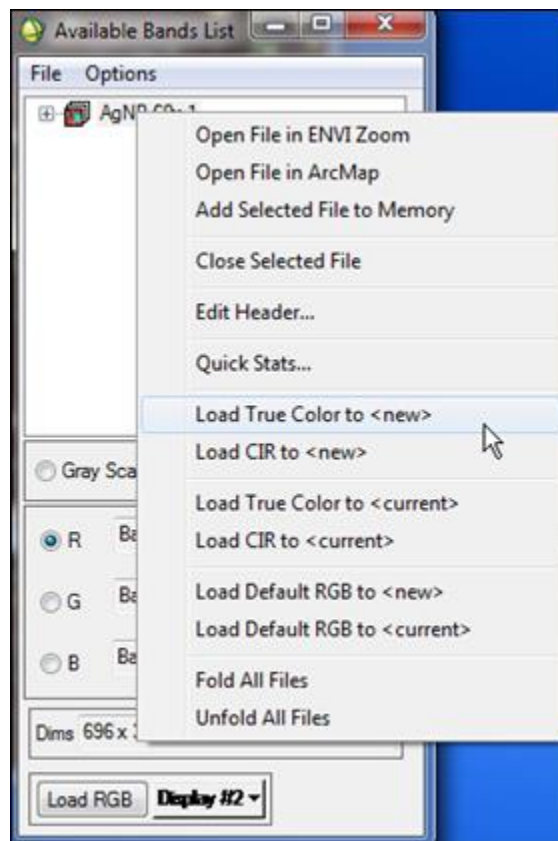

Figure 2.6a. Imaging open options
- To open multiple images from the Available Bands List (Figure 2.6a).